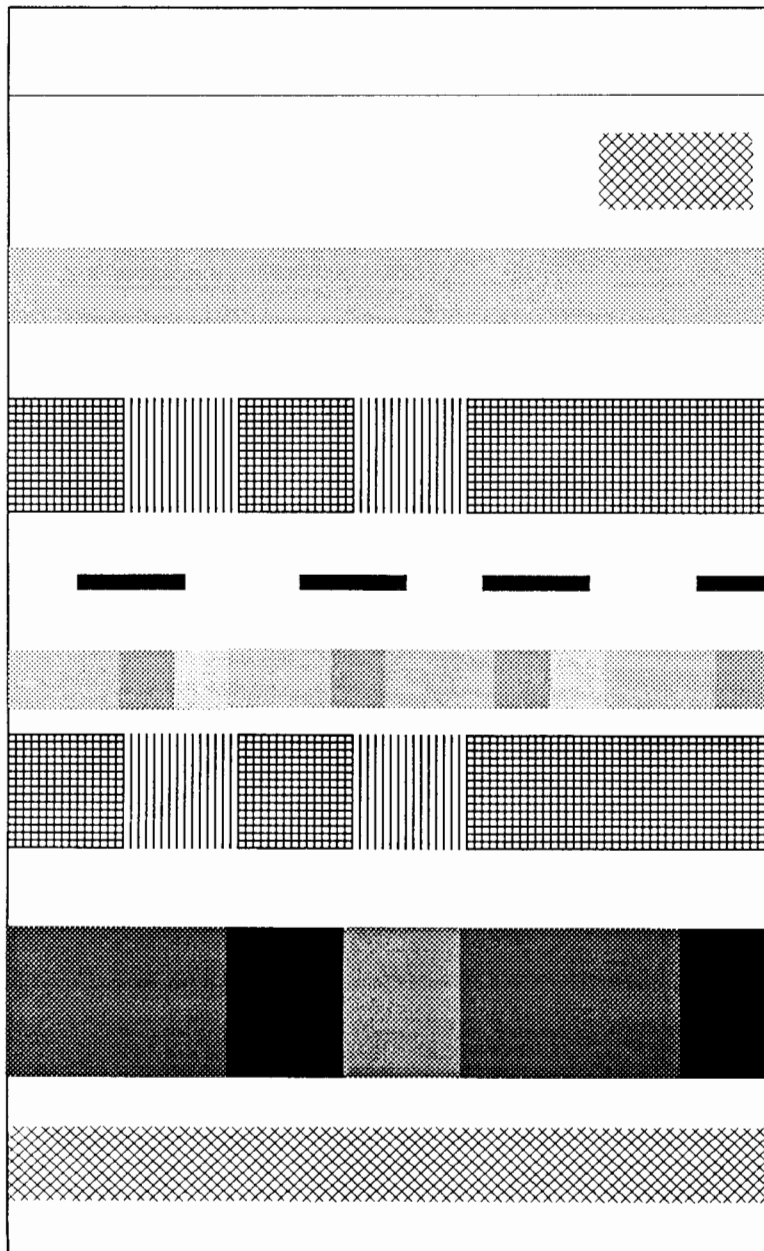

Figure 5-15. Performance Plot
- g. The performance plot will be generated. See Figure 5-15.